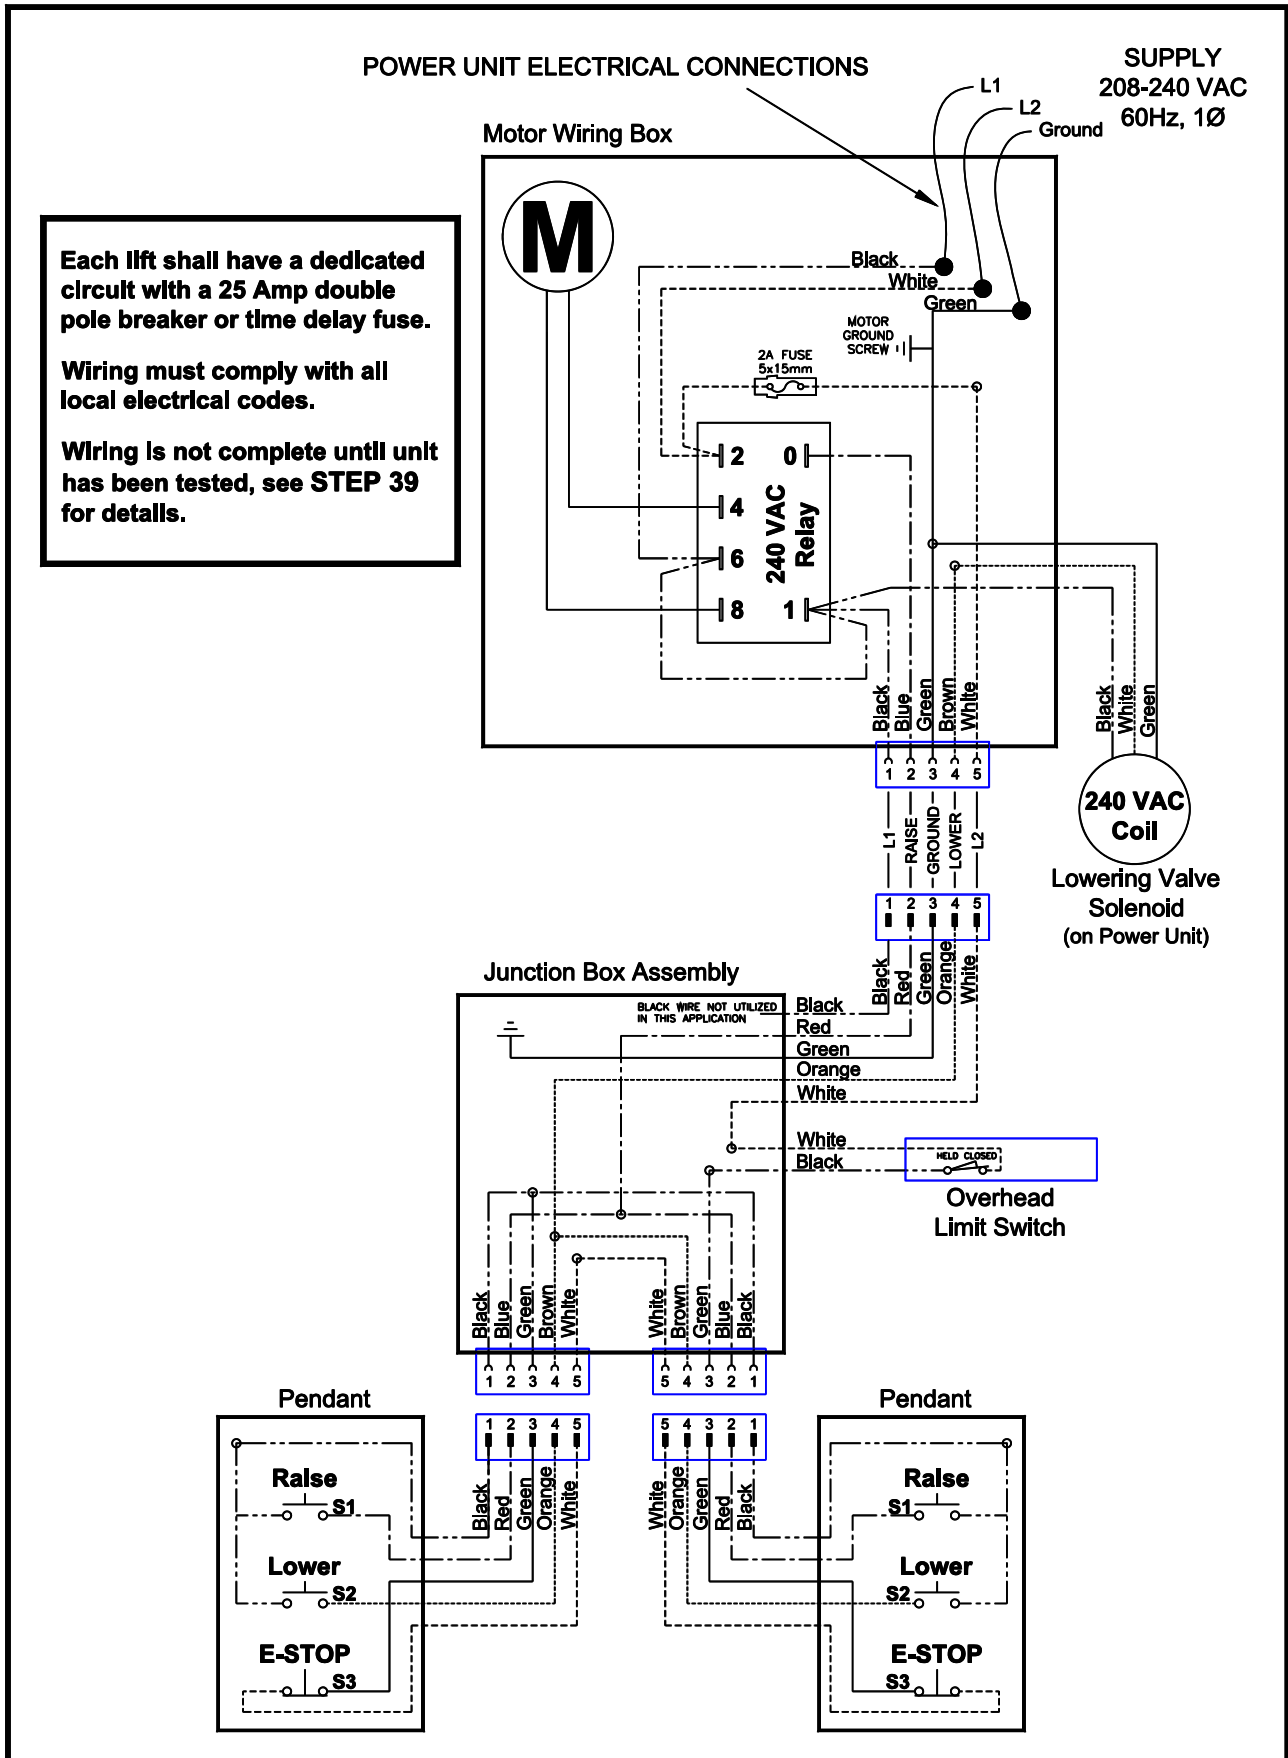

Fig 17 – Electrical Wiring Diagram
- 40) Connect Power Unit to suitable electrical source as shown in **Fig 17**.